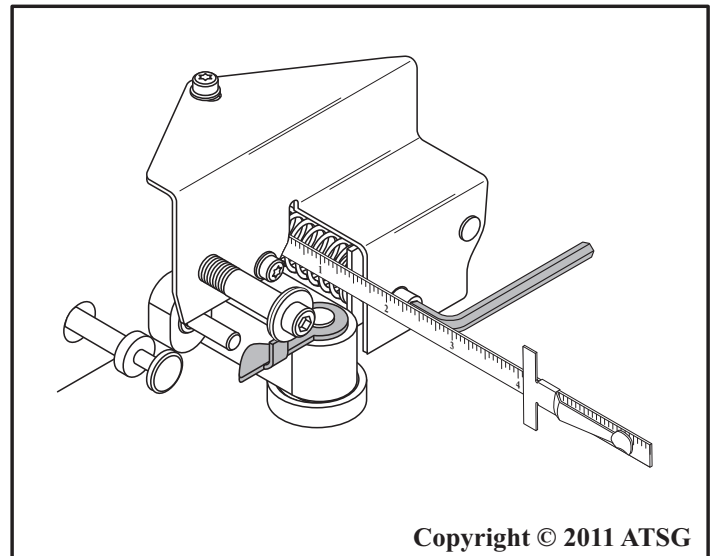

Figure 215
1. Measure distance from the valve body to the inner edge of the adjusting screw flange with an accurate steel scale, as shown in Figure 215.
Turn the adjusting screw in, or out, to obtain the required setting. Use hex-wrench to turn the adjusting screw, as shown in Figure 215. Counter-clockwise, adjustment screw flange goes in, and raises line. Clockwise, adjustment screw flange comes out, and lowers line.